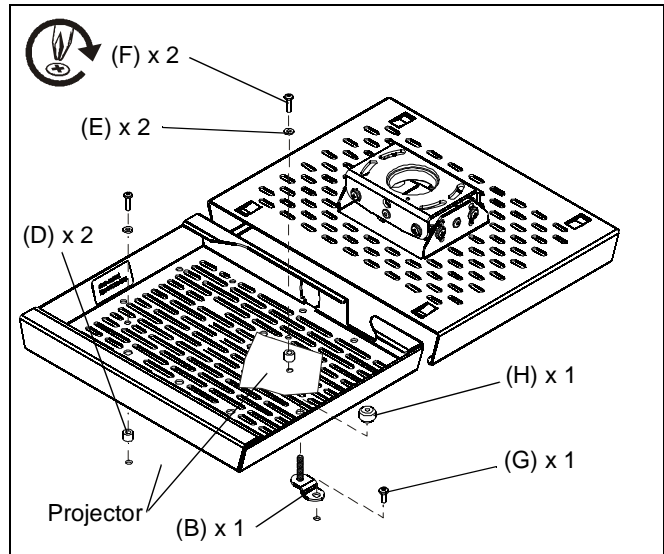

Figure 7
1. Align projector and security mount drawer so that the projector is oriented correctly and mounting holes are aligned. (See Figure 7)
2. Secure projector to mount using two Phillips head machine screws (F), two flat washers (E) and two spacers (D). Also orient mounting foot (B) so that threaded end is in line with mounting hole in mount and secure foot to mount using one thumbnut (H). Secure projector end of foot to projector using one Phillips Head machine screw (G). (See Figure 7) Spacers should be placed between projector and mount. (See Figure 7)